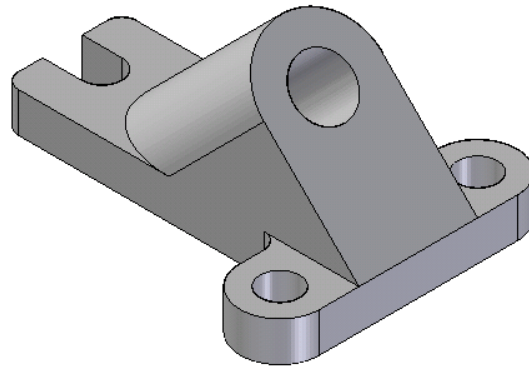

Figure 5-74 Final model for Tutorial 3
- Extrude the profile up to the next face to complete the feature, refer to Figure 5-74.
15. Press and hold the SHIFT key and then select the three base reference planes from the **EdgeBar**. Right-click and choose **Hide** from the shortcut menu to turn off the display of the base reference planes. The final model for Tutorial 3 is shown in Figure 5-74.